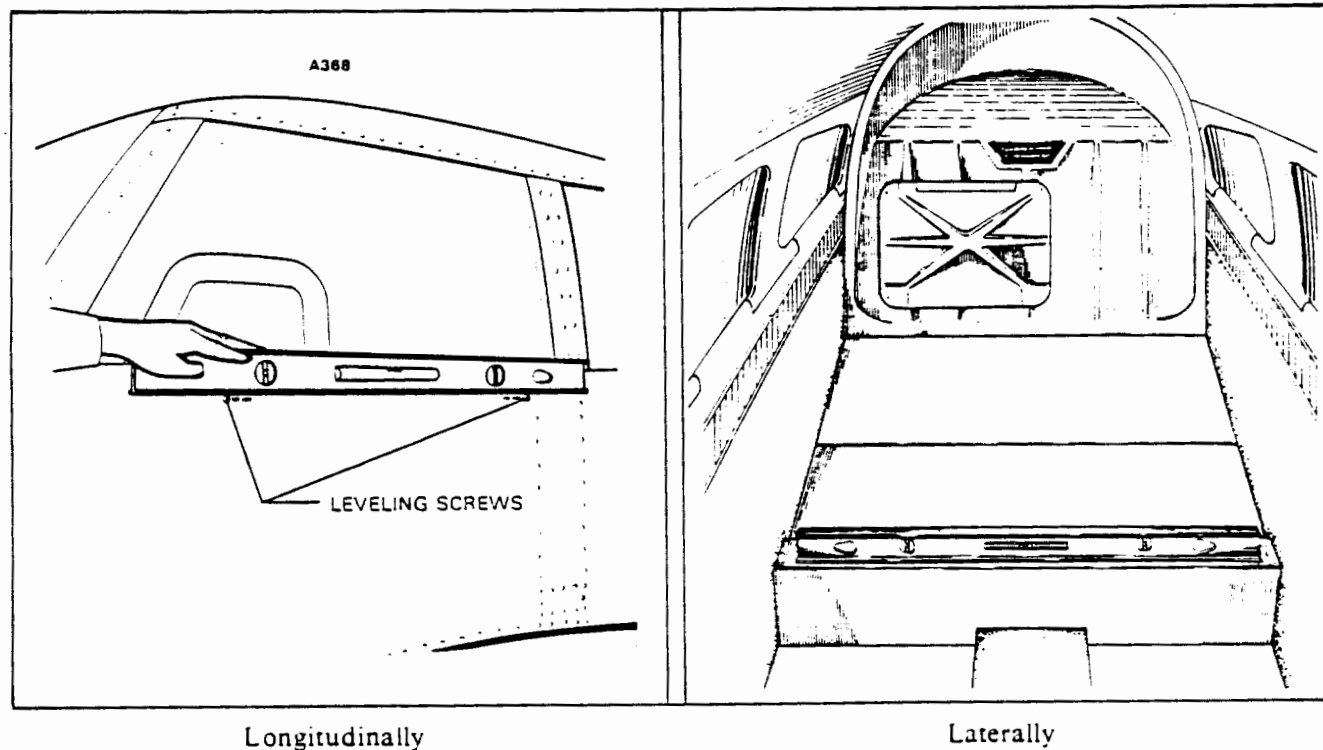

Figure 8-1. Leveling Airplane
1. To longitudinally level the airplane, partially withdraw the two leveling screws located immediately below the left front side window. (Refer to Figure 8-1.) Place a spirit level on these screw heads and deflate the nose wheel tire or adjust the jacks until the bubble of the level is centered.
2. To laterally level the airplane, place a spirit level across the main spar box (refer to Figure 8-1) and deflate the tire on the high side of the airplane or adjust either jack until the bubble of the level is centered.